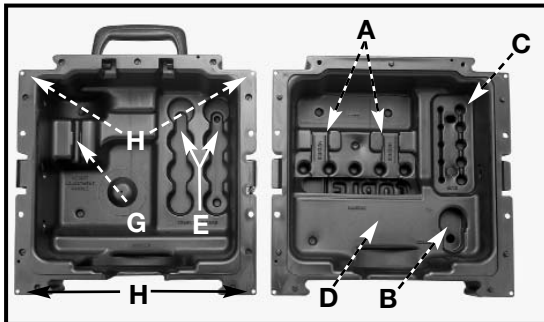
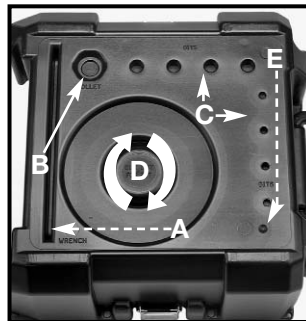

Fig. 25
Fig. 26
The case provides storage for the collet wrench at (A) Fig. 25, an extra collet at (B), and 1/4" and 1/2" bits at (C). Store the user's manual and compact disc in the slot (D). Store the templet guides in the holes (E) and the height adjustment handle in slot (G).
You can attach the inverted back half of the case to a workbench with screws through the holes (H) Fig. 25. In this configuration, storage for a wrench (A) Fig. 26, spare collet (B), and 1/4" and 1/2" router bits (C) is available. You can cut out the center of the router parking pad (D) with a sharp utility knife to allow for storage of the router with a bit installed. To store the height adjustment handle, drill a 13/32" diameter hole at (E) Fig. 26.